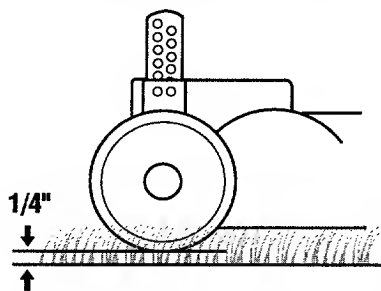

Fig. 5
- b. After cutting height is selected, lower attachment. Set rear gage wheel ground clearance to 1/4". See Fig. 5. Lift gage wheel up (about one hole more) to clear ground by 1/4".